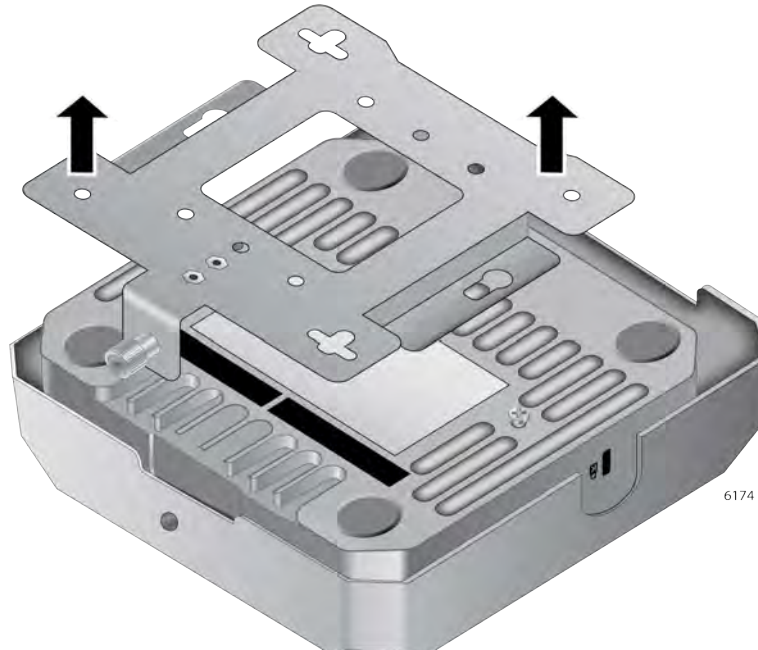

Figure 12. Removing the Mounting Bracket from the Access Point
4. Slide the mounting bracket forward and remove it from the access point. See Figure 12.